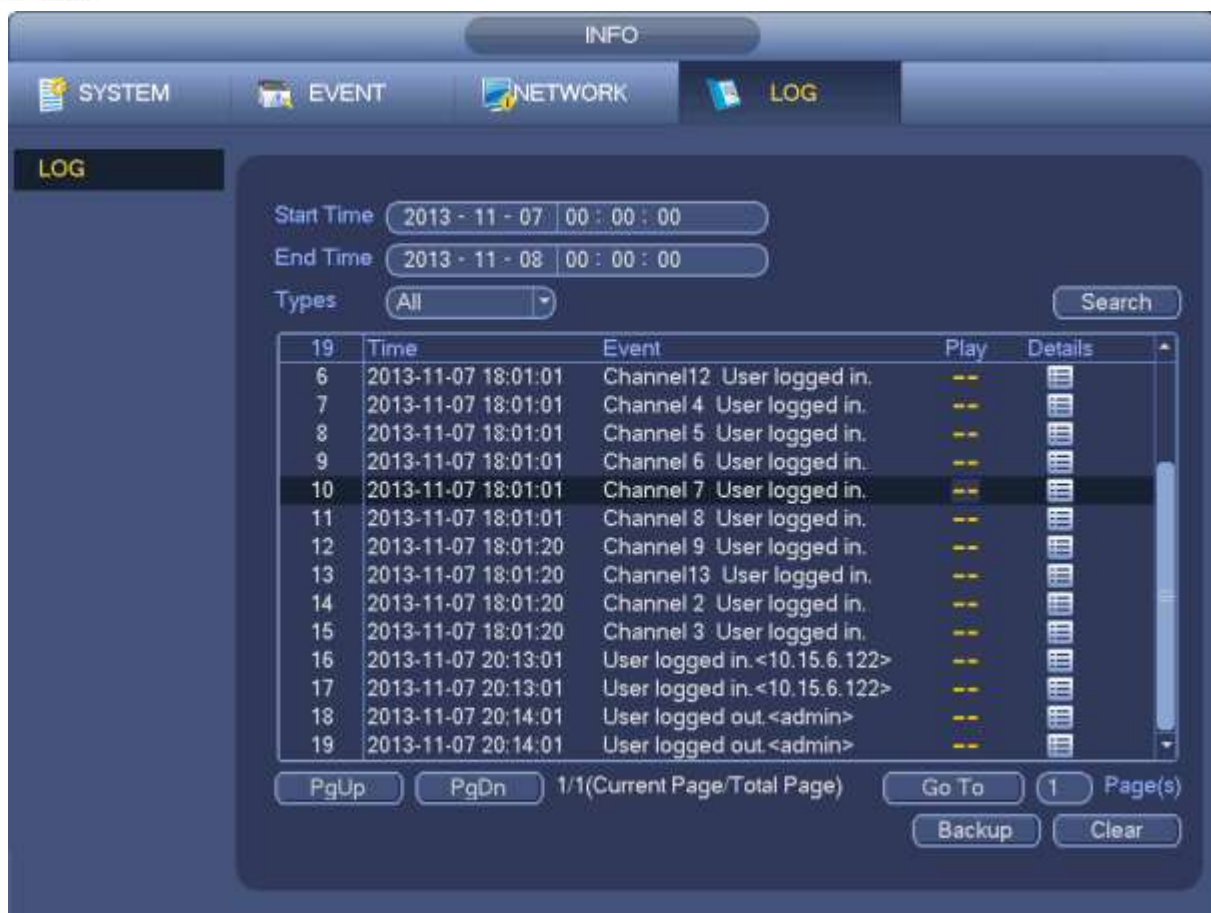

Figure 4-87
- a) From Main menu->Info->Log, the interface is shown as below. See Figure 4-87.